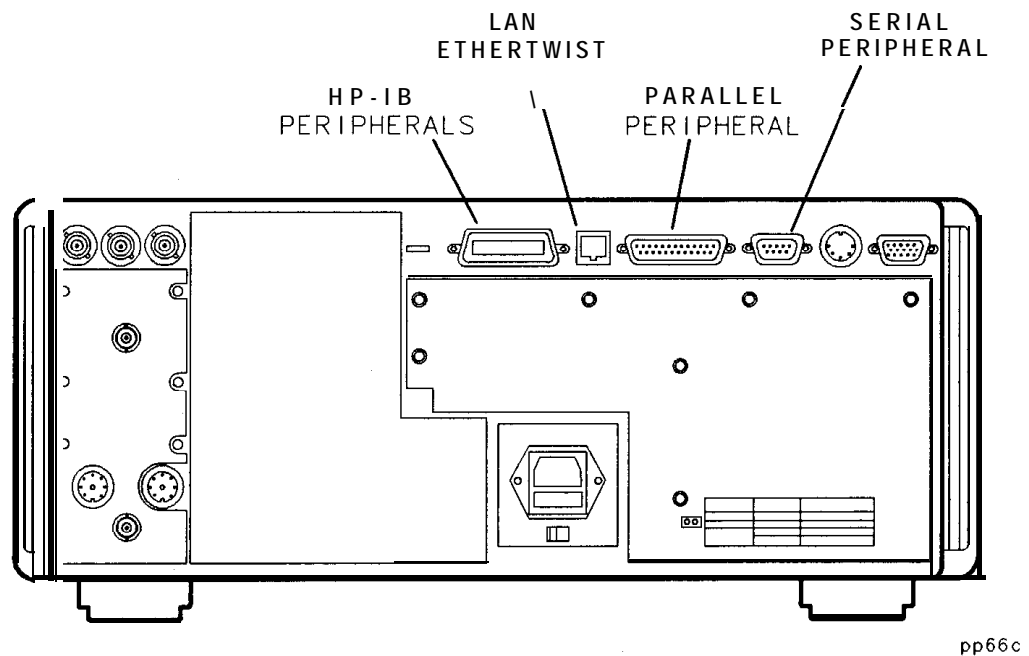

Figure 4-25. Peripheral Connections
2. Connect to one of the ports shown in Figure 4-25.